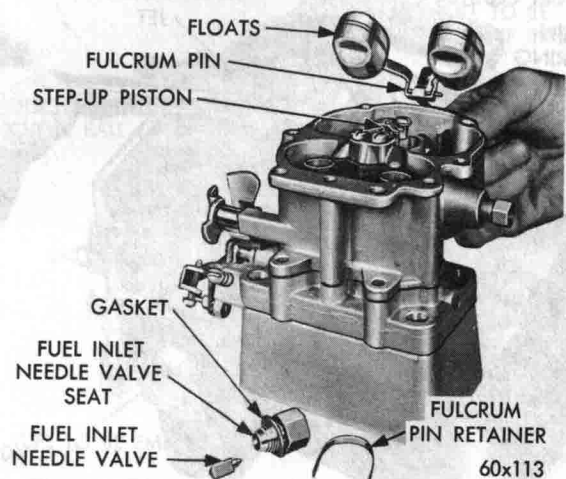

Fig. 6—Removing or Installing Float
(7) Lift out the float fulcrum pin retainer, then lift out the floats and fulcrum pin, as shown in Figure 6.